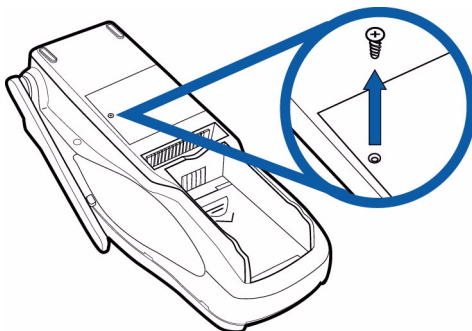

Figure 15 Remove SIM Door Screw
- 1 Remove screw from SIM card access door on back of Omni 3600 terminal (Figure 15).